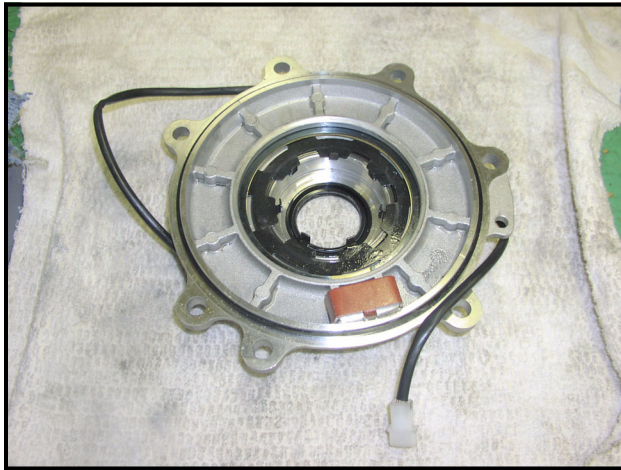

Figure 9-14 Output Hub and Bearing
1. Position a new coil and output cover on a clean solid surface and install the male hub and bearing into the bearing cavity by gently tapping the dowel pin end of the hub (**Figure 9-14, Page 9-6**).